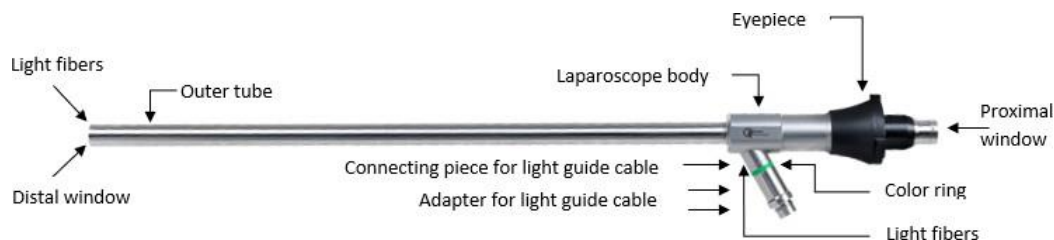

Figure 1: Construction of the Laparoscope
Figure 1 shows the construction of the Quest Spectrum® Laparoscope. The Eyepiece can be only connected to the Quest Spectrum® Camera. Table 2 provides an overview of all laparoscopes provided by Quest Medical Imaging B.V and Table 3 provides an overview of all components.
- ❖ Make sure that the adapters of the light- conducting cables comply with the adapters of the laparoscope (see Figure 1).